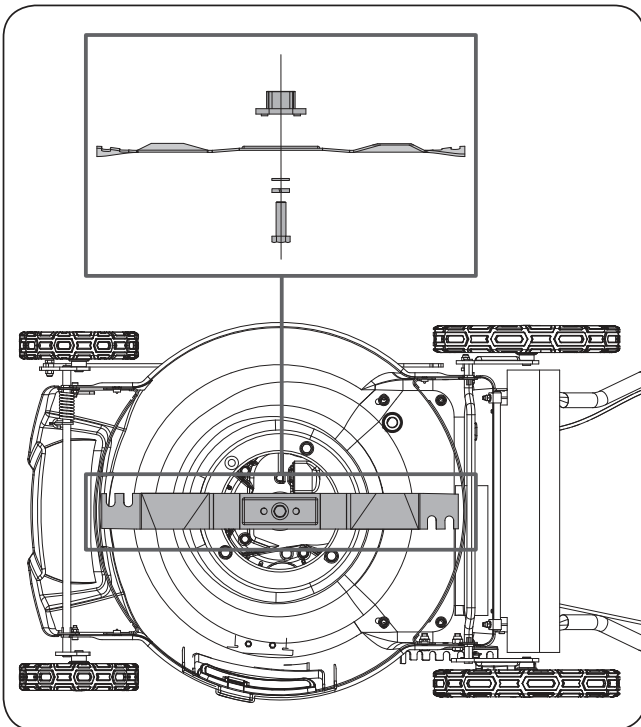

Figure 17
4. Remove the blade, saving all mounting hardware. Examine the blade support and blade bolt to see if there is damage. Examine the motor shaft to make sure that it is not bent. (See **Figure 17**)